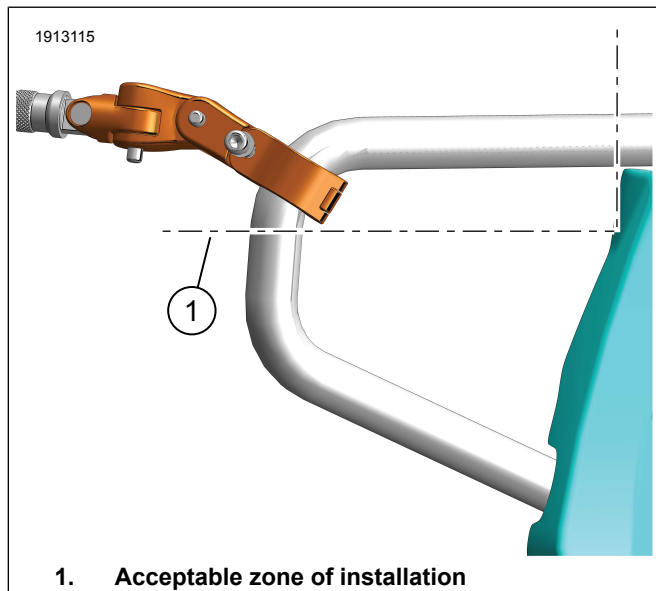
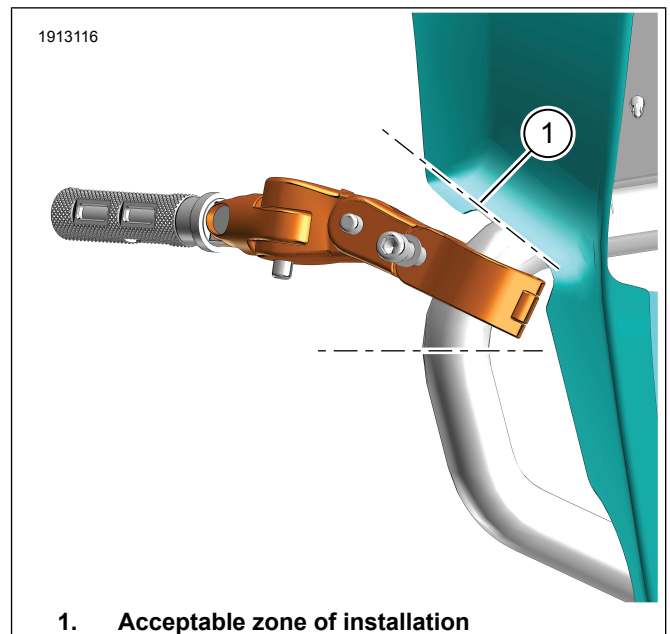

Figure 2. Without Lower
Figure 3. With Lower
- a. See Figure 2 and Figure 3 for zones of installation on chopped style engine guards.